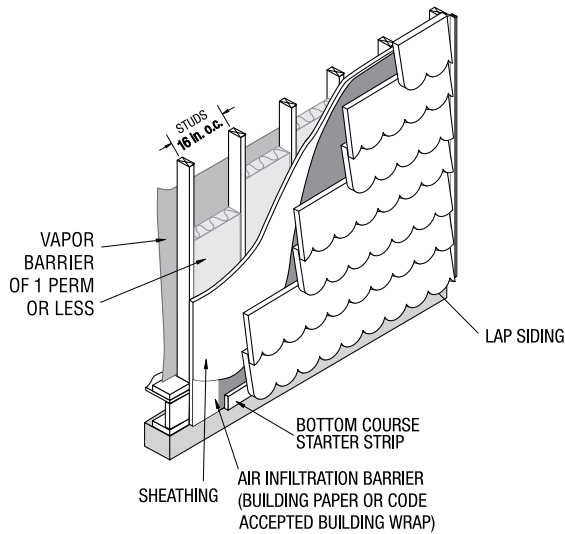

Figure 7
- Siding must have 2 in. clearance from masonry, concrete, brick, stone, stucco or mortar, or be properly flashed (see Fig. 7).